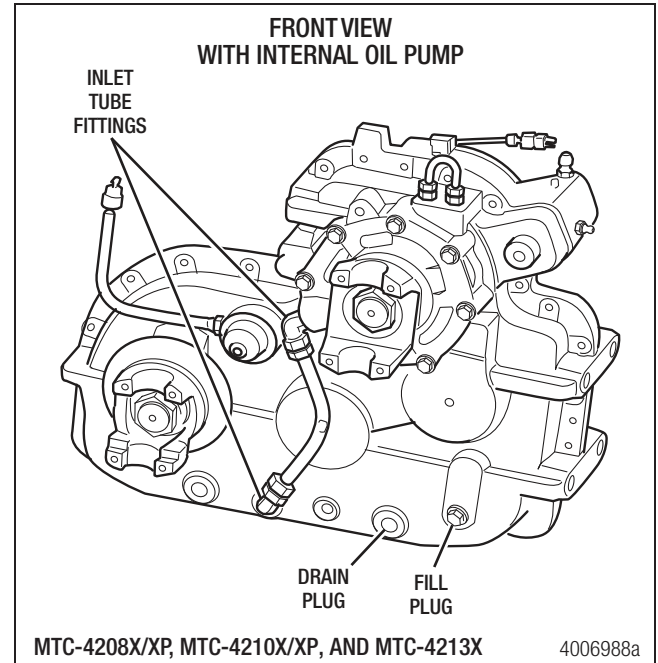

Figure 5.2
- a. Disconnect the transfer case oil inlet line from the oil pump cover. Figure 5.2.
1. Disconnect the oil line from the input bearing cage. Figure 5.2.